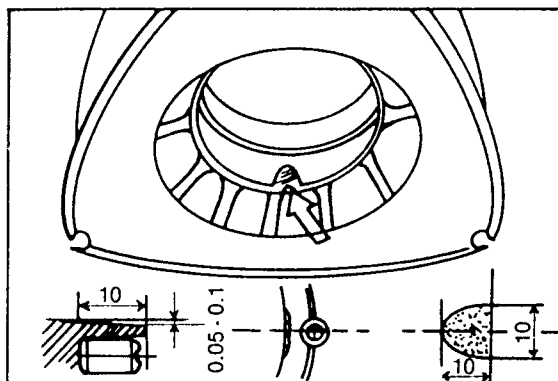

Figure 17
- (3) Locking screw installation.
- The bearing should be locked firmly in place by one locking screw opposite the clinch, as shown in Figure 17. This requires drilling and tapping.